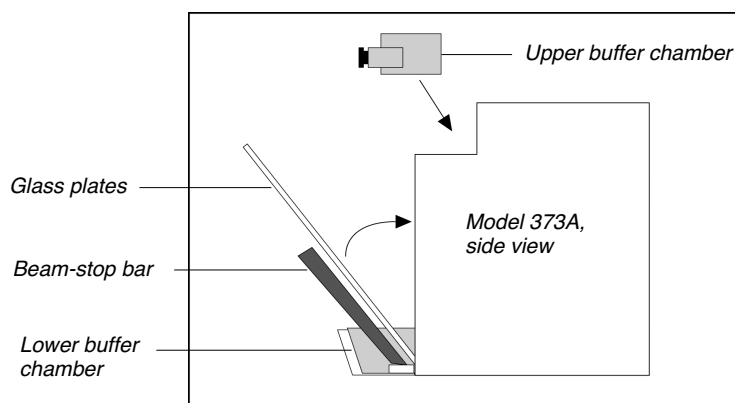

Figure 4-3. Placement of the Buffer Chambers, glass plates, and beam-stop bar in the electrophoresis chamber of the Model 373 (Classic)
3. Pull the black beam-stop bar in the electrophoresis chamber toward you until it stops (Figure 4-3). Rest the bottom edge of the plates on the notched supports in the bottom of the lower buffer chamber, with the notched plate facing away from you. Stand the plates in a vertical position. Press them firmly against the heating plate, and then push the beam-stop bar up against the plates. Center the plates in relation to the beam-stop bar, and then lock the beam stop bar in place by sliding the latches down along the outer edges.